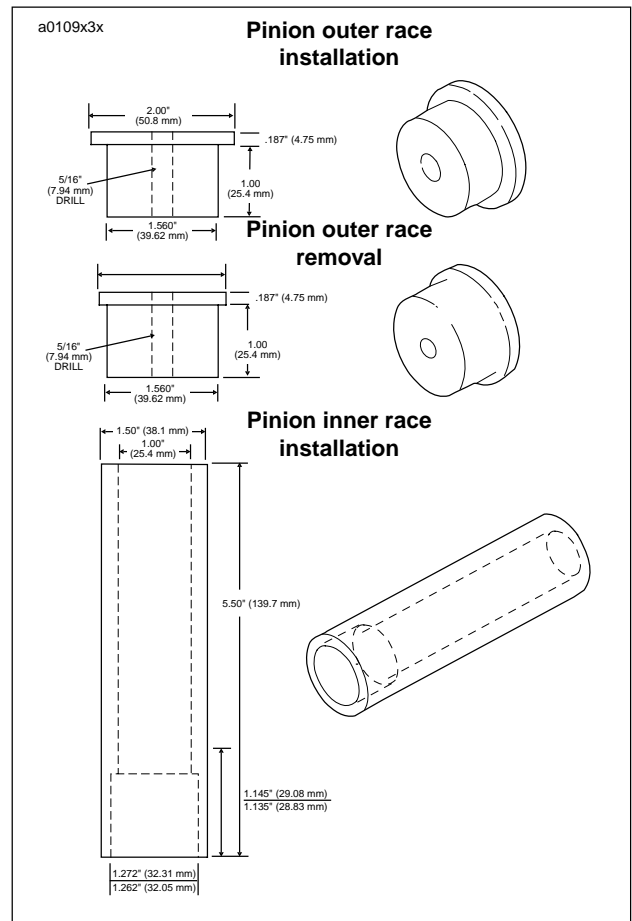
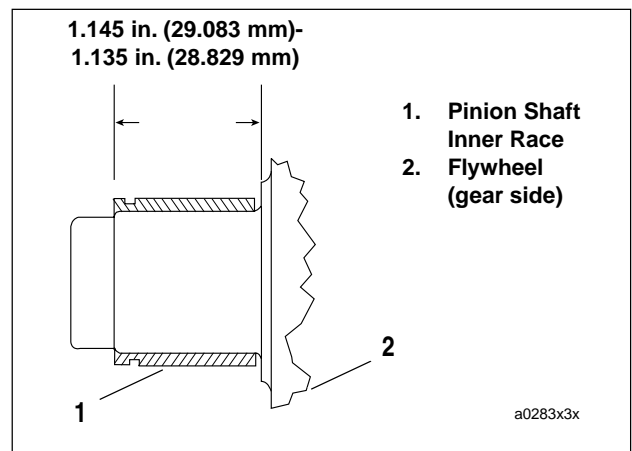

Figure 3-124. Pinion Shaft Bearing Tools
Figure 3-125. Inner Race Location
See **Figure 3-124**. Dimensions are shown for fabrication of tools used in pressing the outer race into or out of crankcase.
7. See **Figure 3-125**. Pull inner race from pinion shaft using **WEDGE ATTACHMENT** for **CLAW PULLER** (Part No. HD-95637-46A) with **BEARING RACE REMOVER/INSTALLER** (Part No. HD-34902B) and **END CAP** (Part No. HD-34902-7). Apply heat to race to aid removal.
8. See **Figure 3-125**. Press **new** inner race on pinion shaft as shown. The **new** inner race must be ground by a competent machinist to OD dimension range for the finished lapped ID of the outer race. See **Table 3-15**. The finished inner race must meet these specifications. For necessary dimensions for constructing a press-on tool see **Figure 3-124**. When the tool bottoms against the flywheel, correct inner race location is automatically established.